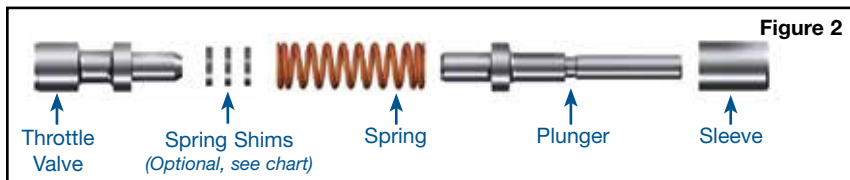

Figure 2
- h. Install any desired shims over spring stem of Sonnax throttle valve, install in valve body spring stem outboard (Figure 2).
- i. Install Sonnax spring (Figure 2).
- j. Install Sonnax throttle plunger and sleeve (Figure 2).